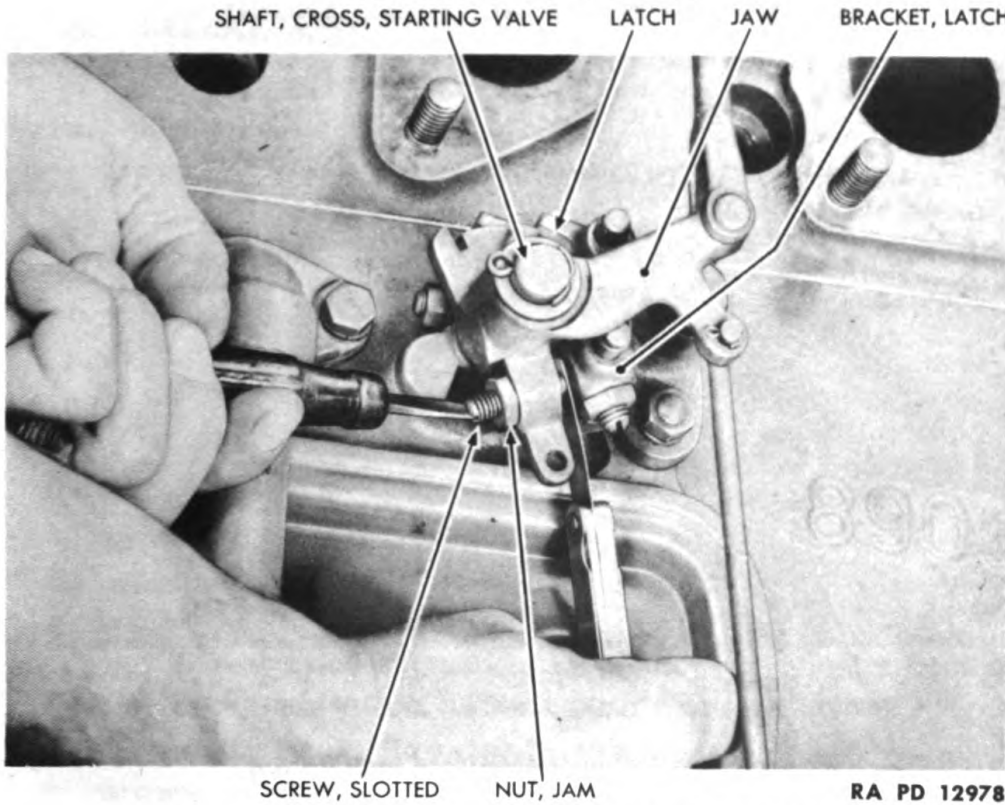

Figure 184—Adjusting Clearance between Starting Valve Cross Shaft Jaw and Latch Bracket
(10) ADJUSTING CLEARANCE BETWEEN STARTING VALVE CROSS SHAFT JAW AND LATCH BRACKET (fig. 184).